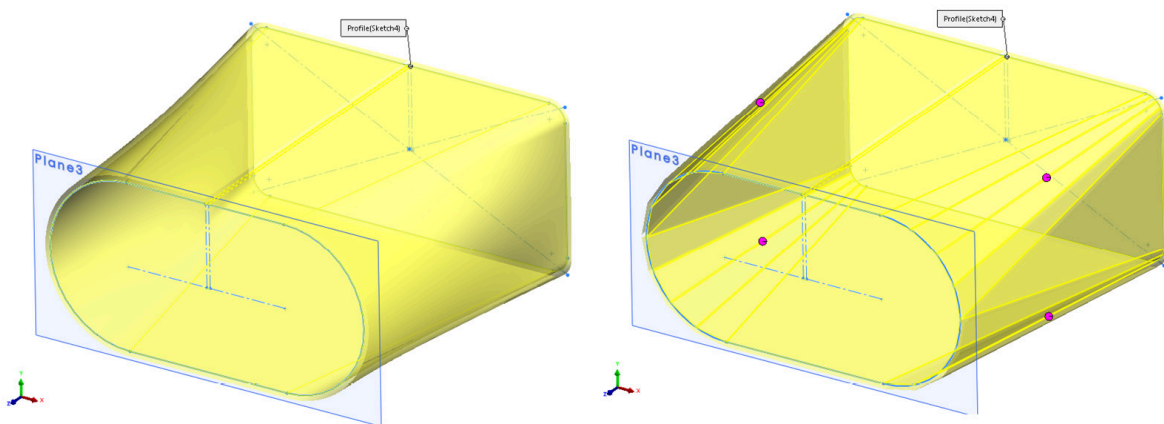

Figure 7.6: Previews of the Formed Lofted Bend (left) and the Bent Lofted Bend (right)
6. We can now choose whether we want to make a Bent or a Formed Loft. Under the **Manufacturing Method** section in the **Property Manager**, choose the **Bent** and **Formed** options in turn. Note that the preview changes slightly with each option (Figure 7.6). The **Bent** option has lots of smaller, straighter edges, and the **Formed** option is much smoother.
Note that we can also click on the purple dots on each of the four corners on the model in the Graphics Area (see the right-hand side of *Figure 7.6*), and this will also allow us to set faceting options specifically for that corner.